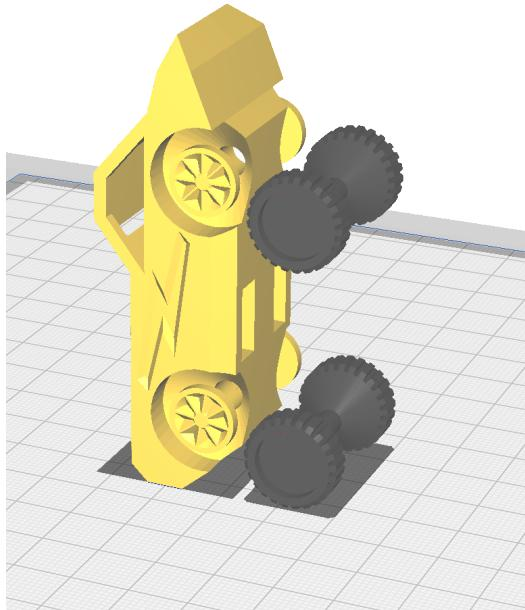

Fig. 12
Step 1. In your slicer, open both STL files and assign extruders, Fig. 12.